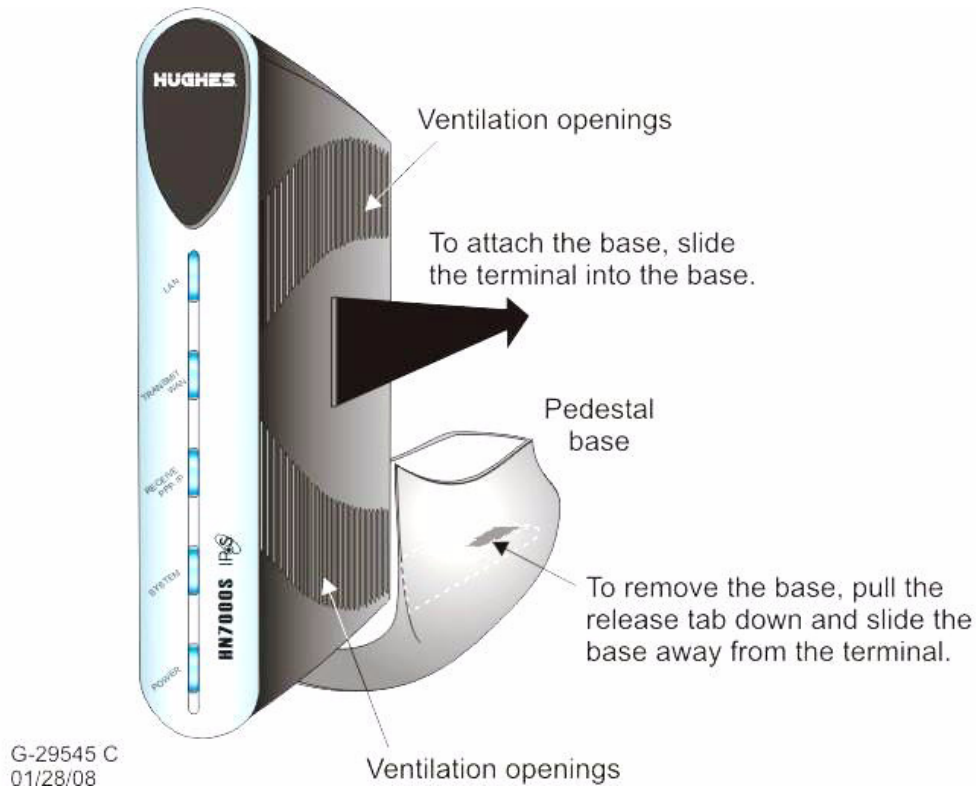

Figure 3: Attaching the router to the pedestal base
1. Position the router and pedestal base Figure 3.
1. Pull the release tab on the bottom of the base down. (See Figure 3.)